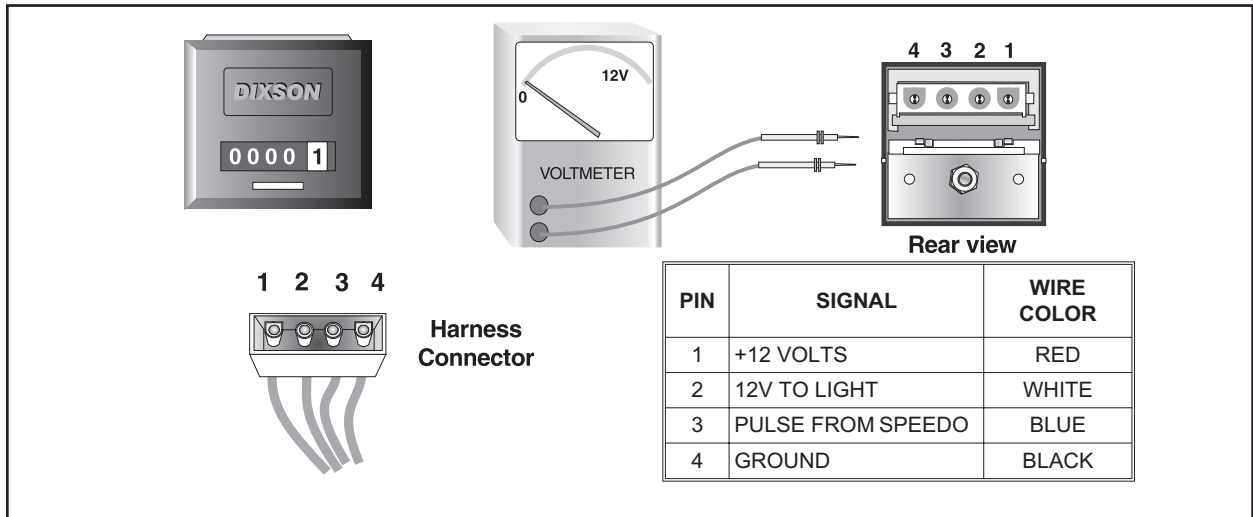

Figure 1 External trip odometer, voltmeter, and connector pinouts
3. Procedure (Refer to Figure 1)